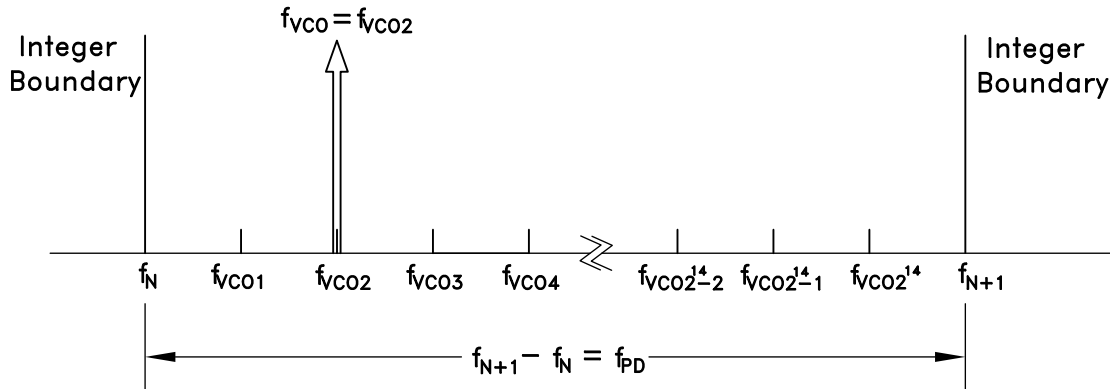

Figure 23. Exact Frequency Tuning
and f_{VCOk} are the channel step frequencies where $0 < k < 2^{24}-1$, As shown in Figure 23.
Some fractional PLLs are able to achieve this by adjusting (shortening) the length of the Phase Accumulator (the denominator or the modulus of the Delta-Sigma modulator) so that the Delta-Sigma modulator phase accumulator repeats at an exact period related to the interval frequency ($f_{VCOk} - f_{VCO(k-1)}$) in Figure 23. Consequently the shortened accumulator results in more frequent repeating patterns and as a result often leads to spurious emissions at multiples of the repeating pattern period, or at harmonic frequencies of $f_{VCOk} - f_{VCO(k-1)}$. For example, in some applications, these intervals might represent the spacing between radio channels, and the spurious would occur at multiples of the channel spacing.
If it is desirable to have multiple, equally spaced, exact frequency channels that fall within the same interval (ie. $f_N \leq f_{VCOk} < f_{N+1}$) where f_{VCOk} is shown in Figure 23 and $1 \leq k \leq 2^{14}$, it is possible to maintain the same integer-N (Reg 03h) and exact frequency register (Reg 0Ch) settings and only update the fractional register (Reg 04h) setting. The Exact Frequency Channel Mode is possible if (EQ 17) is satisfied for at least two equally spaced adjacent frequency channels, i.e. the channel step size.
To configure Hittite PLL for Exact Frequency Channel Mode, initially and only at the beginning, integer (Reg 03h) and exact frequency (Reg 0Ch) registers need to be programmed for the smallest f_{VCO} frequency (f_{VCO1} in Figure 23), as follows:
1. Calculate and program the integer register setting $\text{Reg 03h} = N_{INT} = \text{floor}(f_{VCO1}/f_{PD})$, where f_{VCO1} is shown in Figure 23 and corresponds to minimum channel VCO frequency. Then the lower integer boundary frequency is given by $f_N = N_{INT} \cdot f_{PD}$.
$$\text{Reg04h} = N_{FRAC} = \text{ceil} \left(\frac{2^{24} (f_{VCOk} - f_N)}{f_{PD}} \right) \quad \text{where } f_N = \text{floor}(f_{VCO1}/f_{PD}), \text{ and } f_{VCO1}, \text{ as shown in Figure 23, represents the smallest channel VCO frequency that is greater than } f_N.$$
4. To change from channel 1 ($f_{VCO1} = 2000.2$ MHz) to channel 2 ($f_{VCO2} = 2000.3$ MHz), only **Reg 04h** needs to be programmed, as long as all of the desired exact frequencies f_{VCOk} (Figure 23) fall between the same integer-N boundaries ($f_N < f_{VCOk} < f_{N+1}$). In that case